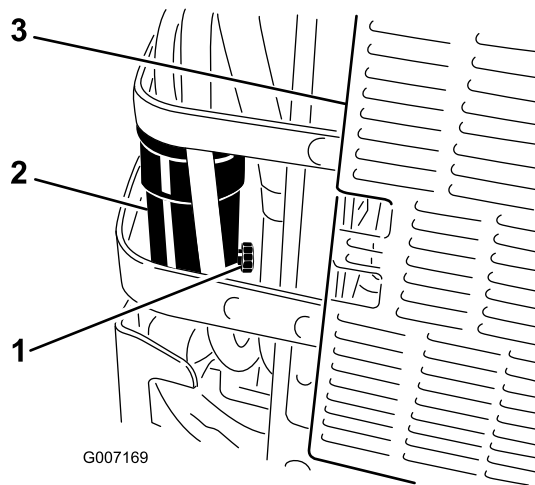

Figure 46
6. Open the drain valve on the water separator approximately one turn to allow water and other contaminants to drain (Figure 46).
7. Close the drain valve when only diesel fuel comes out (Figure 46).